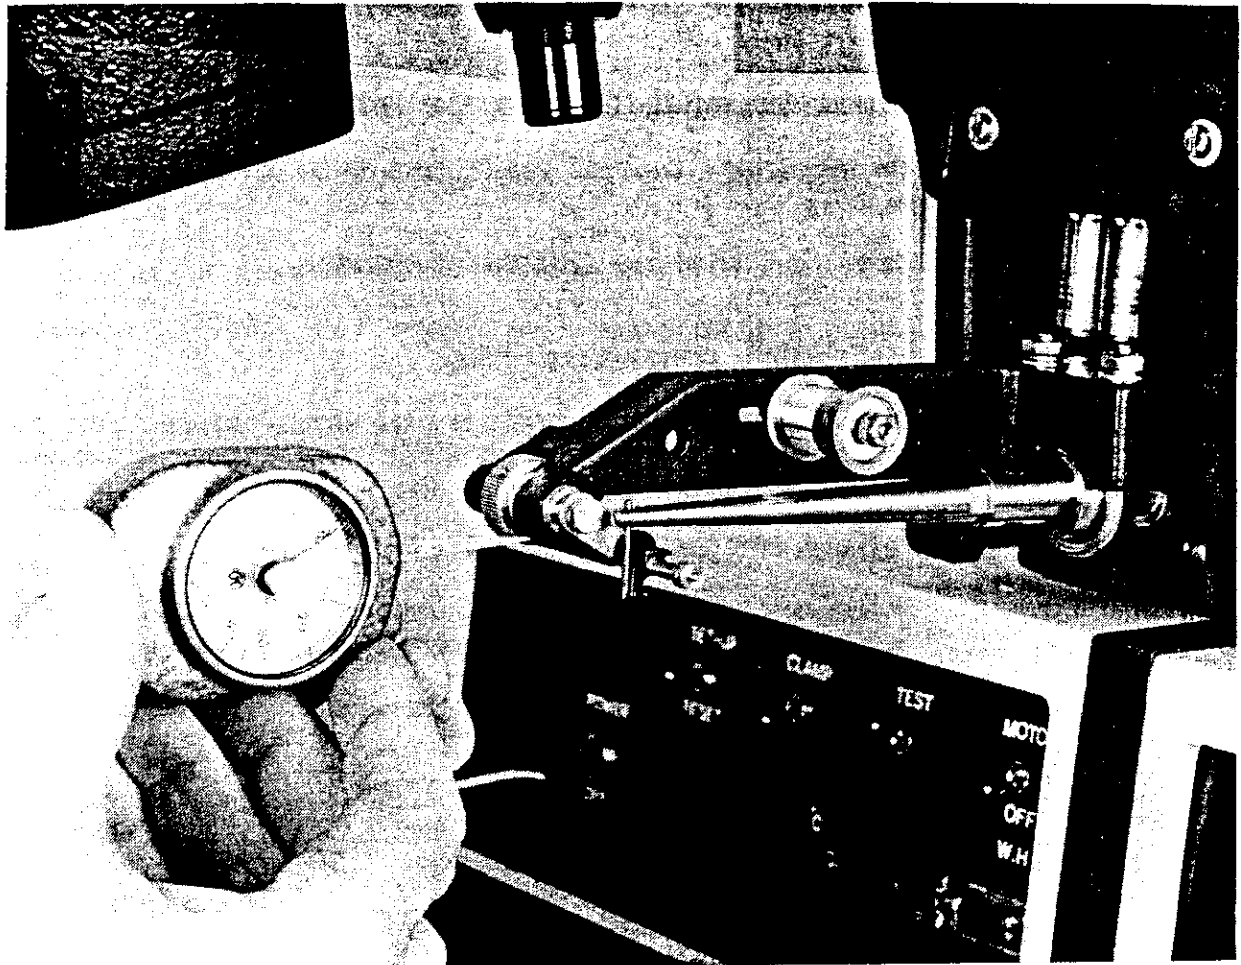

Figure 4-6 Force Adjustment Using Gram Gauge
- Step 5 Using a gram gauge (see Figure 4-6), lift the Bonding Head until it starts to rise.